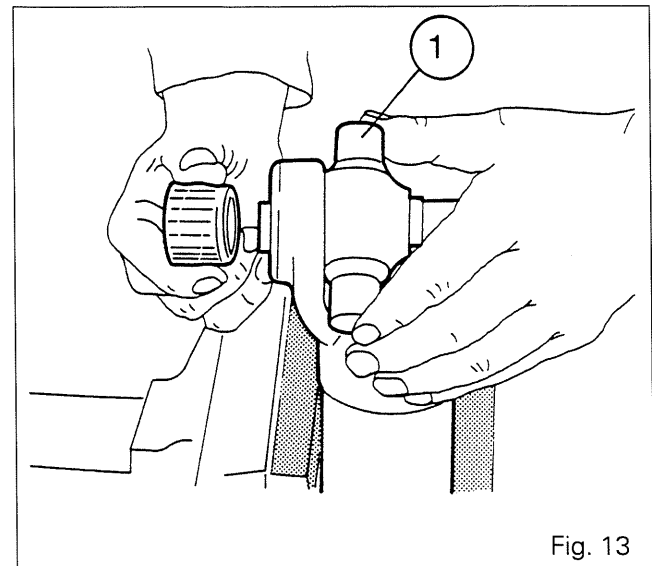

Fig. 13
90. Position the universal joint (1) in the yoke and move it sideways as far as possible (Fig. 13) so that the end of the spider can serve as a guide for installing the needle rollers of the bearing sleeve.